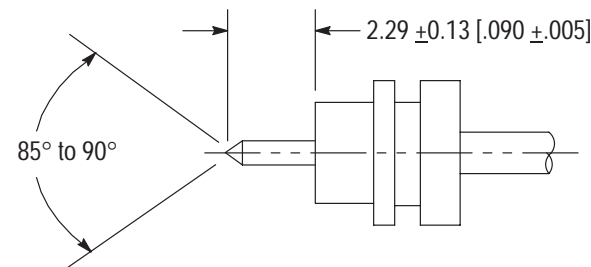

Figure 8
1. Trim to length as shown in Figure 8.